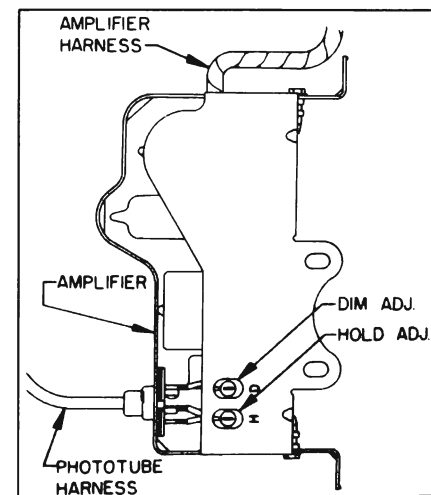

Figure 11-165—Amplifier Adjustments
(1) Hold and dim sensitivity controls are slotted for screwdriver adjustment and are located at the side of the amplifier unit. See Figure 11-165.
(2) Rotate the amplifier hold control completely clockwise. See Figure 11-165.
(1) Rotate amplifier dim control completely counterclockwise. See Figure 11-165.
(2) Momentarily turn "DIM-HOLD" switch to "HOLD" then back to "DIM" position to obtain upper beam. See Figure 11-165.
(3) Adjust tester "INTENSITY CONTROL" until meter pointer is at "DIM ADJ." line. See Figure 11-165.
(4) Slowly rotate amplifier dim control clockwise just to point where headlamps switch to lower beam. Do not go beyond this setting.
(5) Recheck sensitivity as shown in Steps (1) through (3) under Dim Sensitivity Test. If sensitivity is not correct, repeat adjustment procedure.
(6) If adjustment is correct, turn off headlamps and disconnect Kent-Moore tester.
(7) Remove tester lamp from the phototube unit.